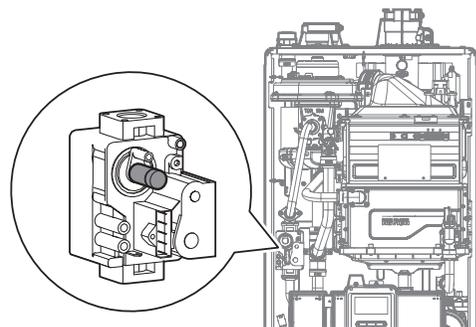

Figure 10. Set Screw Location
- c. Activate multiple zones and set the boiler to operate at 1-stage MIN mode (refer to “11.6.7 Setting the Special Operation Modes” on page 127). Measure the offset value at low fire and compare it to the values in Table 3. If the offset value is out of range, the gas valve set screw will need to be adjusted. If adjustment is necessary, locate the set screw as shown in Figure 10. Using a ⁵/₃₂ in or 4mm Allen wrench, turn the set screw no more than 1/4 turn clockwise to raise or counterclockwise to lower the offset value.